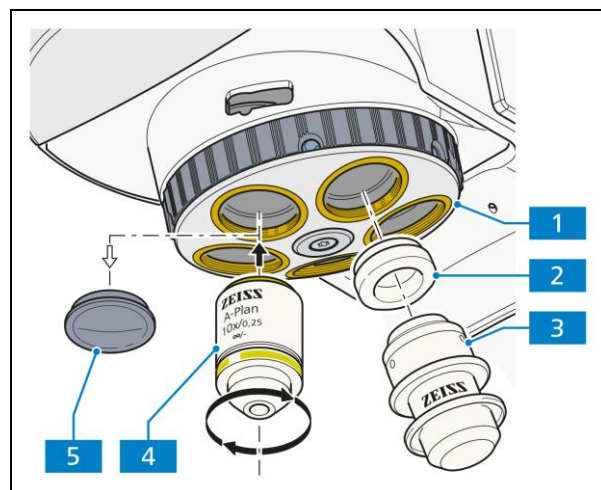

Fig. 3-6 Screwing in objectives
- Remove the dust protection caps (Fig. 3-6/5) from the appropriate openings in the nosepiece.
- Remove objectives (Fig. 3-6/4) from the case and screw them into the nosepiece (Fig. 3-6/1) starting with the smallest magnification factor (set up clockwise).
- Instead of an objective, the specimen marker (Fig. 3-6/3) with an adapter W0.8/M27 (Fig. 3-6/2) can be screwed on in any desired nosepiece position. If the specimen marker is not to be used for an extended period, apply the protective cap to prevent it from drying out.